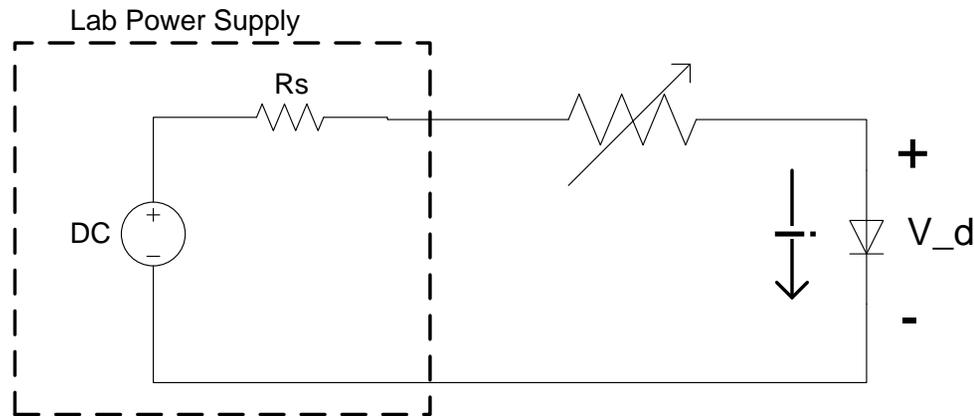

Figure 4: Diode Testing Schematic
1. Build a circuit, as shown below in Figure 4, which consists of a 1N4004 diode and a resistor to control the current. (It might be easiest to use half of a potentiometer).